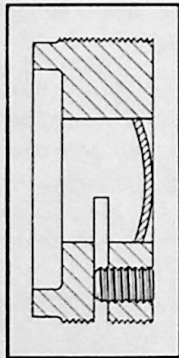
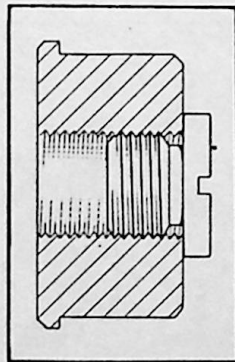

FIG. 17
FIG. 18 Bearing Plug.
4. Unscrew the adjusting nuts (Fig. 17) which retain bearings (4) and (5) of the back shaft. Drop right hand end of this shaft assembly down into headstock. (See Gear Shaft Removal).
The gear shafts are mounted on adjustable Timken bearings. Adjustment is by means of the threaded collars in the headstock. These collars, Fig. 17, are locked by tightening the set screws. After adjustment the shaft should run free and without drag, but there should also be no end play.
2. Unscrew the adjusting collar, Fig. 17. If the shaft has a non-adjustable collar at its right hand end, remove the center screw, Fig. 18, otherwise remove both adjusting collars, Fig. 17.
3. Move the gear shaft sideways by sliding it through the inner Timken bearing race (5), and through the gears on the shaft.
Spacers should be cut to measured length from cold rolled steel stock to hold the gears and the Timken races in their proper places while the shaft is being pushed through them. If possible, the actual pressure should be exerted by means of a screw fitting the inside thread of the plug, Fig. 18, otherwise the shaft may be advanced by tapping with a brass rod.